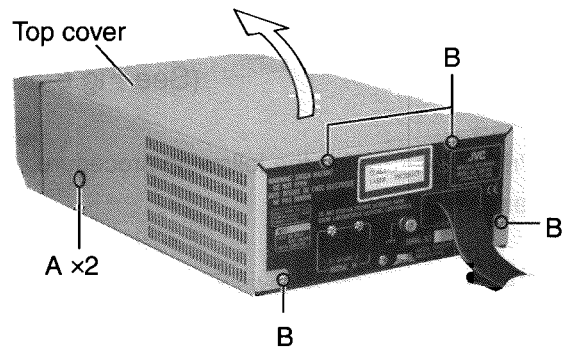

Fig. 1
■ Removing the top cover (See Fig.1)
(see Fig.1)